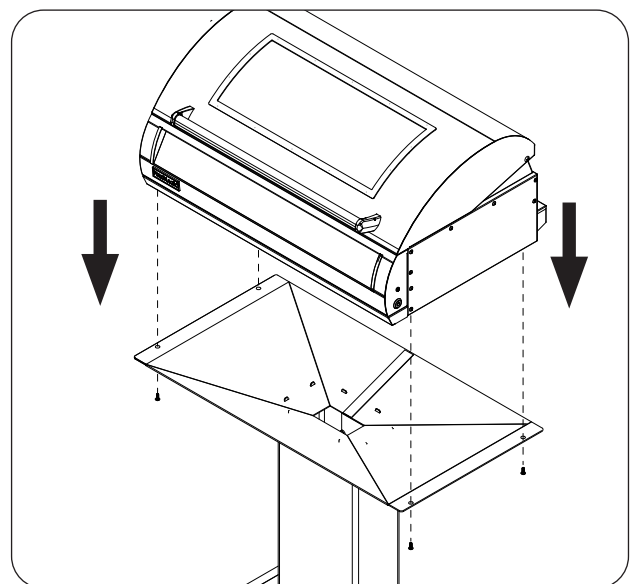

Fig. 32-3 Fasten grill to post base assembly
- Carefully place and align the electric grill onto the top of the post assembly. Fasten the electric grill to the post base assembly using the 4 included Phillips-head screws. See Fig. 32-3.